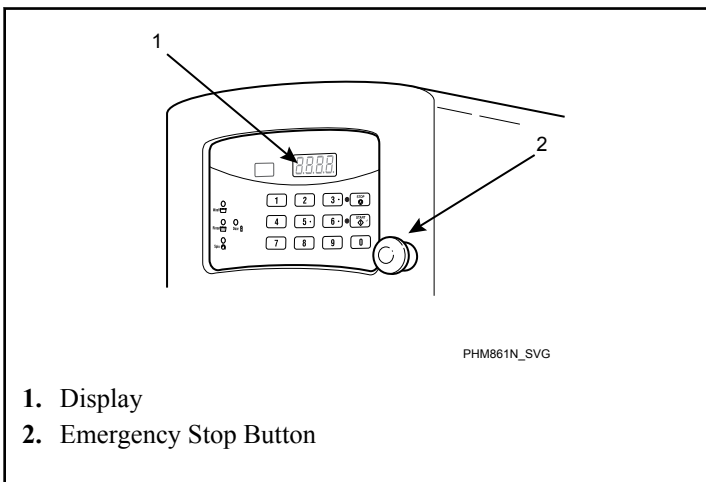

Figure 36
9. Emergency stop button (refer to *Figure 36*) should be depressed to terminate machine operation when any unsafe condition is present during machine operation.